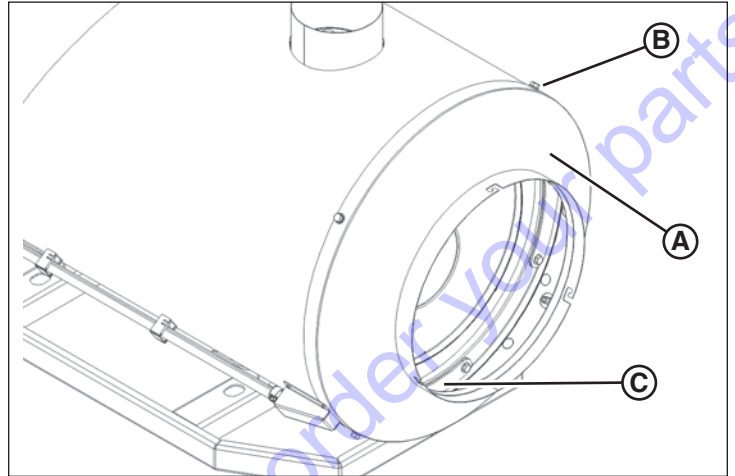

Figure 49
1. Remove the air outlet cone (A, Figure 49) by removing the screws (B) that secure it to the heater unit.
3. Locate the curved plate (C, Figure 49) at the bottom of the combustion chamber. Remove the screws that hold the plate, and remove the plate and gasket.